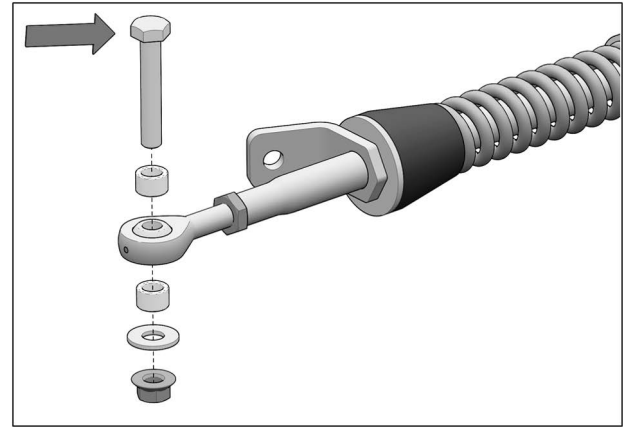

Fig. 17
7. Remove bolts, nuts, washers and bushings from front stabilizing rod ends as shown in Fig. 17